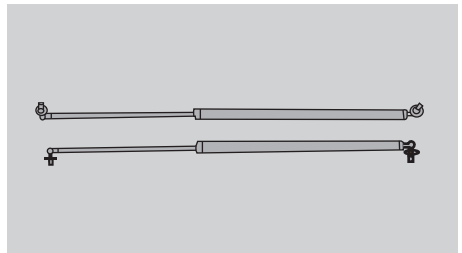

Figure 5
- ✓ 2 x Large Gas Strut to lift the entire base-board, As indicated in Figure 5.